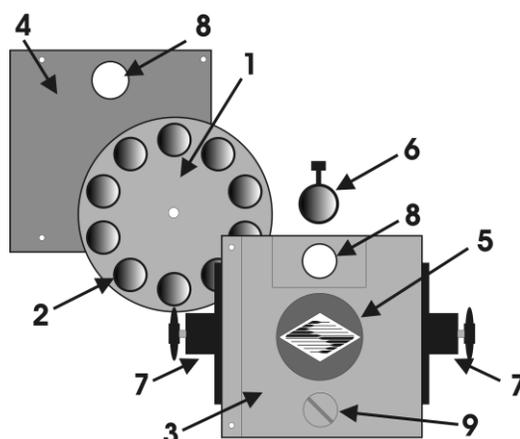
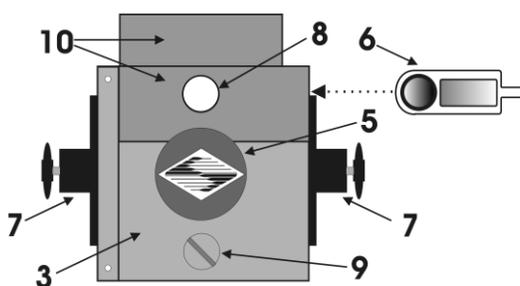

Figure 1-1. Lambda series 25mm filter wheel (without shutter).
Figure 1-2. Lambda series 25mm filter wheel housing (with 25mm shutter).
6. Drop-in filter holder (Figure 1-1) or slide-in filter holder (Figure 1-2)